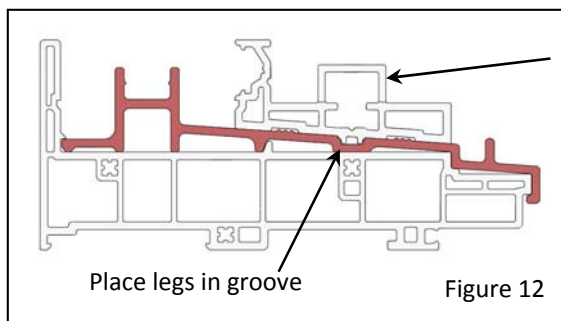

Figure 12
- 10) Place the Fixed Panel Support onto the fiberglass sill cover with the legs on the bottom of the panel support in the groove in the fiberglass cover (Fig. 12). Make sure the gasket is firmly against the jamb (right jamb for a left opening door, left jamb for a right opening door). Drive #8 x 1-1/2" Pan Head screws through the Panel Support and into the sill, except for the last hole in the fabricated end (Fig. 13) using a #8 x 3/4" Flat Head screw.